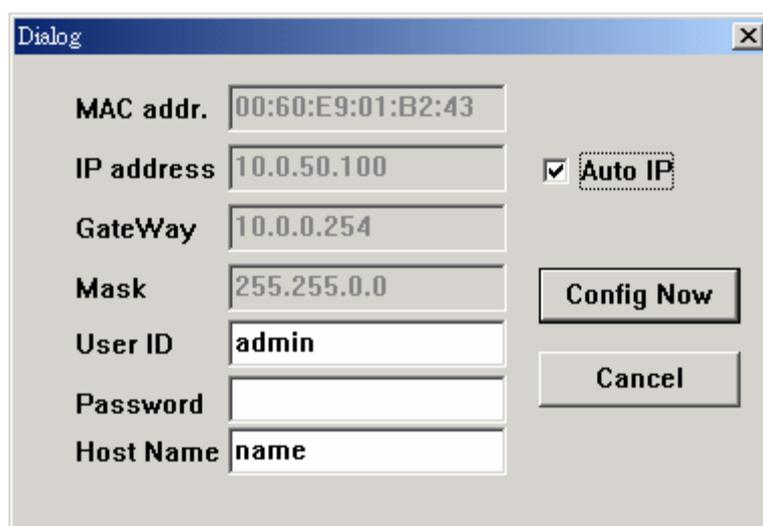

Figure 3.3. monitor.exe Auto IP Dialog Window
- >Check "**Auto IP**" ( Figure 3.3)